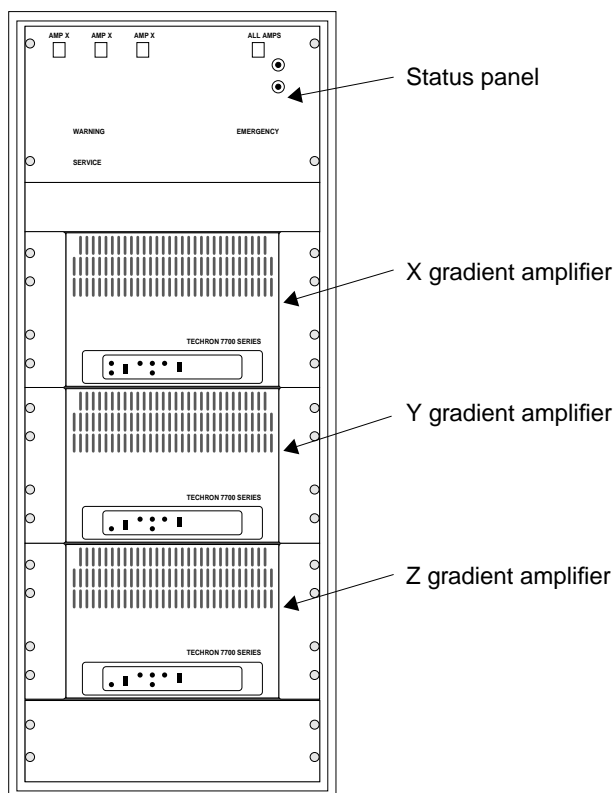

Figure 2. Microimaging Cabinet with Gradient Control System, Open Front View
| Figure 2. | Microimaging Cabinet with Gradient Control System, Open Front View | 10 |
1. The microimaging cabinet (see Figure 2) requires a three-phase, high-current power source. Verify that the main supply is 208 V/60 A, 240 V/50 A, 380 V/40 A, or 415 V/30A and is separate from the 20 A power line to the UNITY *INOVA* console.